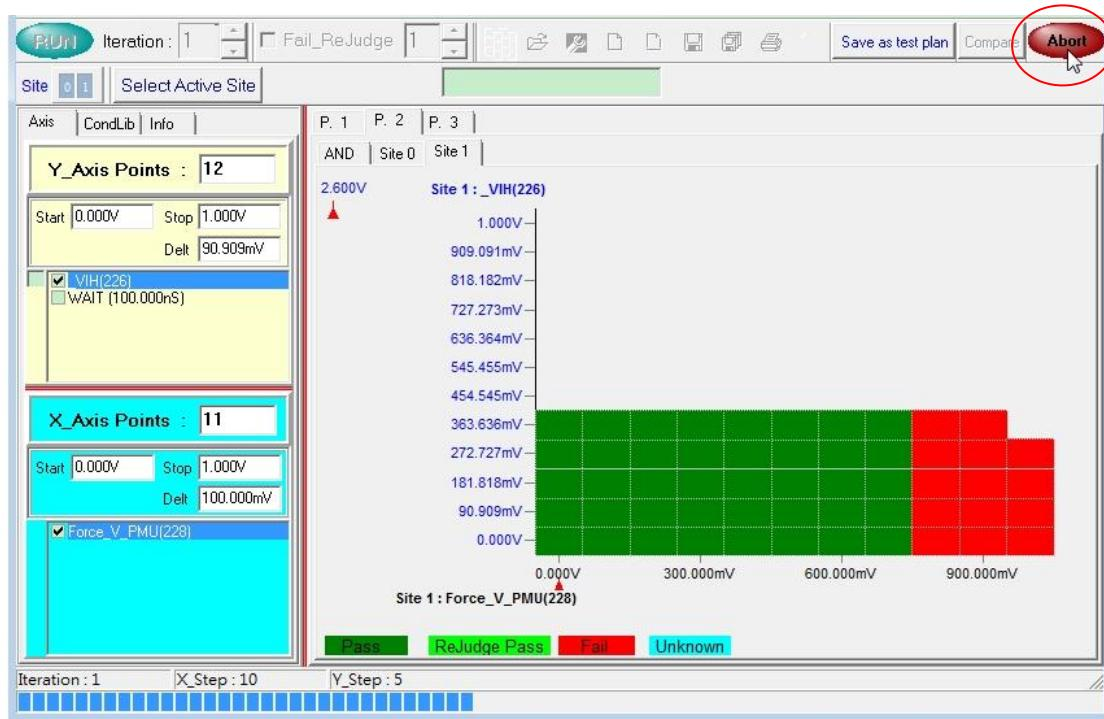
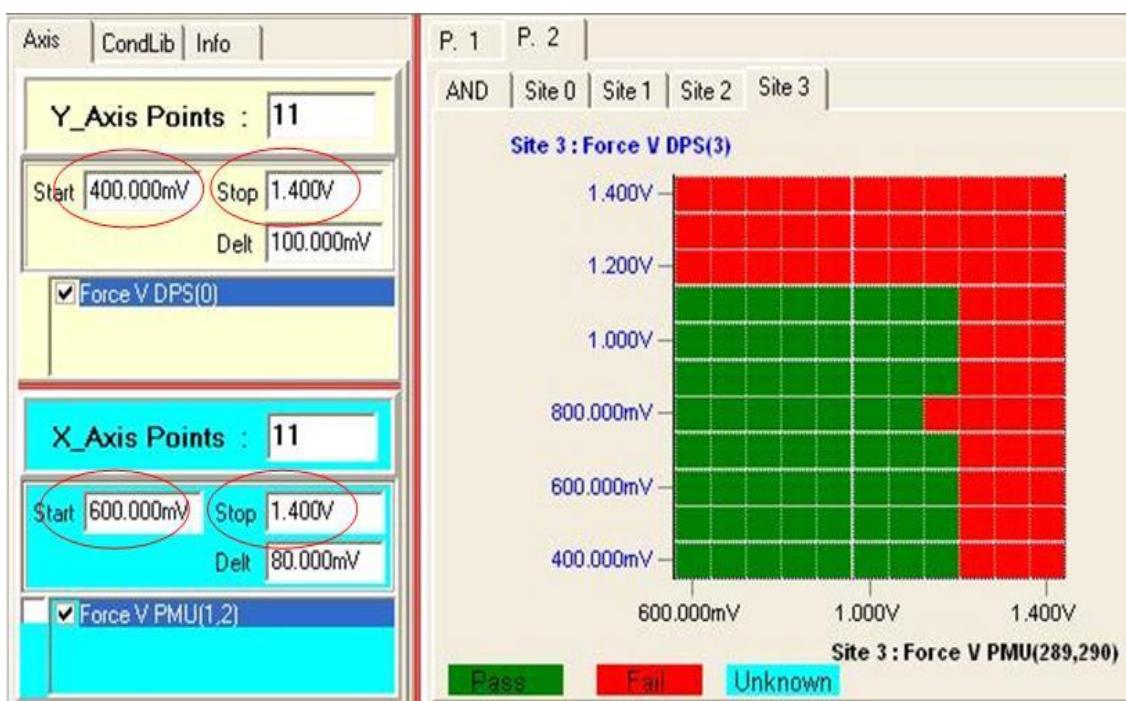

Figure 11-12 Abort Button
Figure 11-13 Zoom In Result
- (1) With the mouse, select a square area of shmoo plot displayed in the Plot window. (Figure 11-12①)
- (2) Right click on the square area, a menu popped up (Figure 11-12②)
- (3) Click "Zoom In".
- (4) The Condition page shows the start and stop values of the parameters enclosed within the square area (Figure 11-13).
- (5) A new page is created, and the plot of the conditions with the new start and stop values are automatically displayed.
- (3) Click "Delta".
- (4) The delta values of the two points at the two ends of the yellow diagonal line are displayed in the Info page.